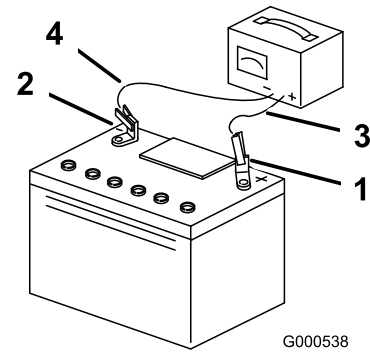

Figure 40
- When the battery is fully charged, unplug the charger from the electrical outlet, then disconnect the charger leads from the battery posts (Figure 40).